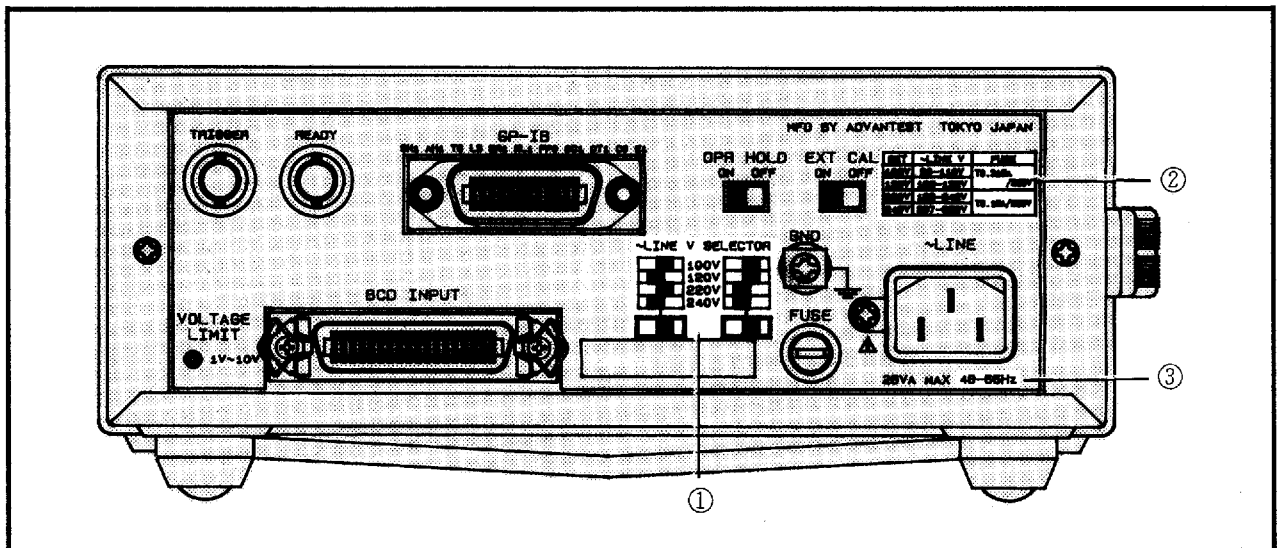

Figure 1-2 Supply Voltage Selector Switch
- ① Wrap the R6142 in a vinyl sheet.
- ② Wrap the unit in a cushioning material and place it in a cardboard box 5 mm or thicker.
- ③ Put in the accessories, followed by more cushioning material, and close and seal the box.
- Make sure that the supply voltage ② to be used matches the set position of the units supply voltage selector switch ①. (See Fig. 1-2)
- The power frequency can be either 50 Hz or 60 Hz. (See ③)